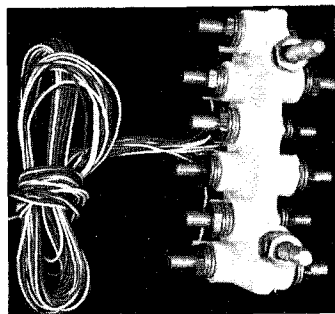

Fig. 4—QBN-1B Terminal Block
**4.01** The QTC type terminals are furnished with one QBN-1B (6 Pair NON-PROTECTED TYPE) Terminal Block. (Fig. 4). Each binding post has a single, replaceable, 24-gauge wire lead assembly attached. The top (tip) posts have white leads and the bottom (ring) posts have blue leads.